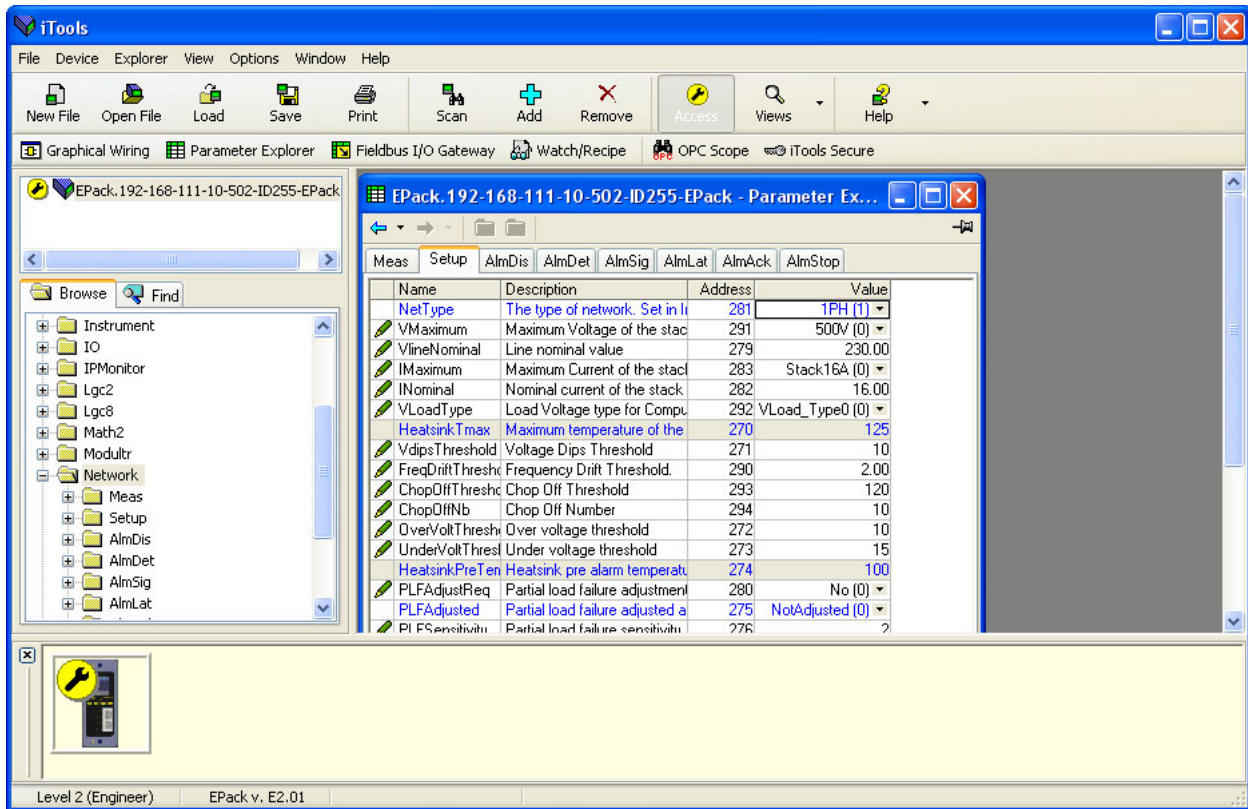

Figure 102 Parameter table example
In each case the function block parameters appear in the iTools window in tabular form, such as the example in Figure 102.
- Parameters in blue are non-editable (Read only). In the example above all the parameters are read only. Read/write parameters are in black and have a 'pencil' symbol in the 'read/Write access column at the left edge of the table. A number of such items are shown in Figure 102, above.
- Columns. The default explorer window (Figure 102) contains the columns 'Name', 'Description', 'Address' and 'Value'. As can be seen from Figure 105, above, the columns to be displayed can be selected, to a certain extent, using either the 'Explorer' menu or the context menu. 'Limits' have been enabled for the example above.